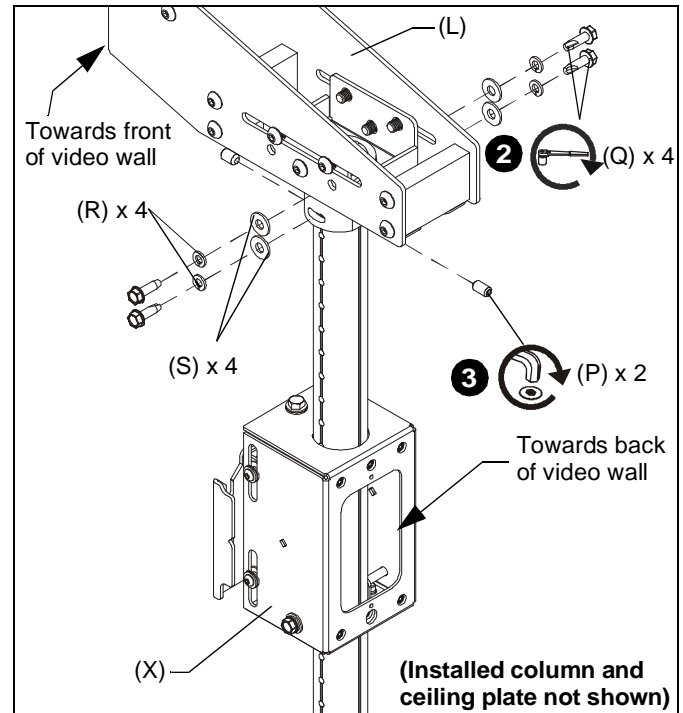

Figure 9
1. Arrange column assembly so that the open side of the array head (U) is facing the back of the video wall. (See Figure 9)
2. Loosely fasten column assembly to array offset (L) using four 5/16" x 1" hex head self-tapping screws (Q), four 5/16" split washers (R), and four 5/16" washers (S). (See Figure 9)